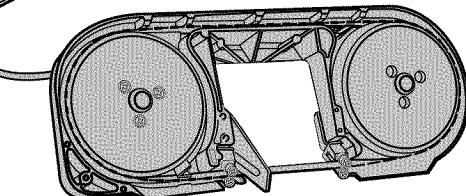

FIG. 4
5. Inspect the blade guides, shown in Figure 4 and remove any large chips which may be lodged in them. Lodged chips can prevent rotation of the roller guides and cause flat spots on the rollers.